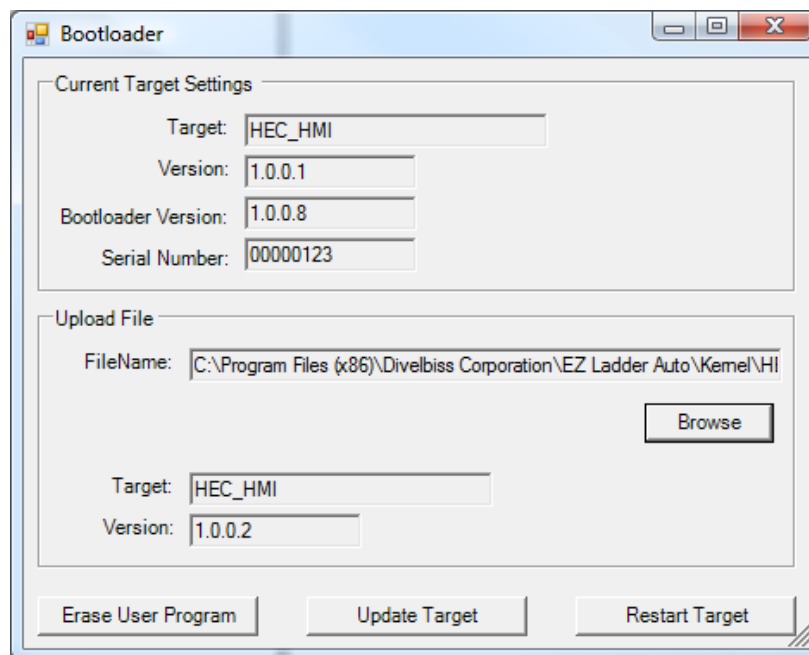

Figure 3 - Bootloader Window
6. Click the  button to connect to the HEC-HMI. A dialog will appear automatically when no kernel is loaded. If this dialog does not appear, click **PROJECT** then **BOOTLOADER**. Refer to Figure 3.